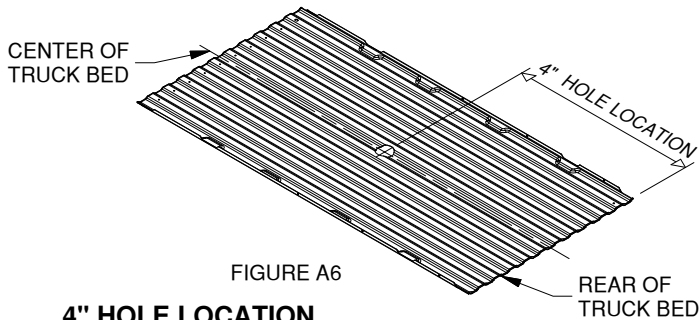

FIGURE A6
- 11. Mark the 4" hole location.** Using a tape measure hooked over the rear edge of the bed (at tailgate end), measure the location for the hole as shown in Figure A6. Next, locate the center of the bed by measuring the distance between the wheel wells and dividing by two. The center of the hole will be at the intersection of the center of the bed and the first distance measured.